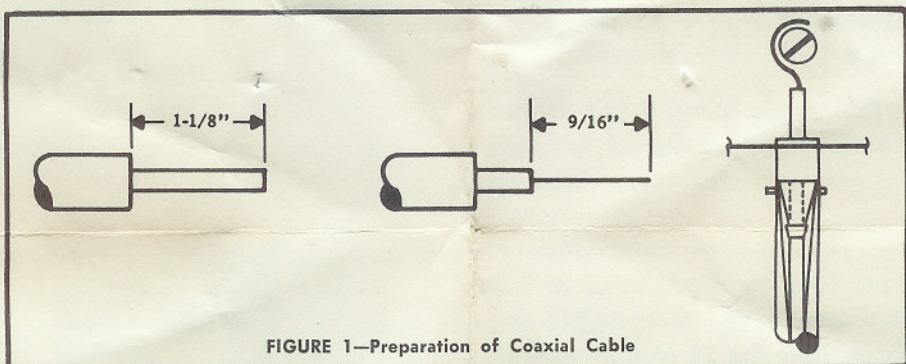
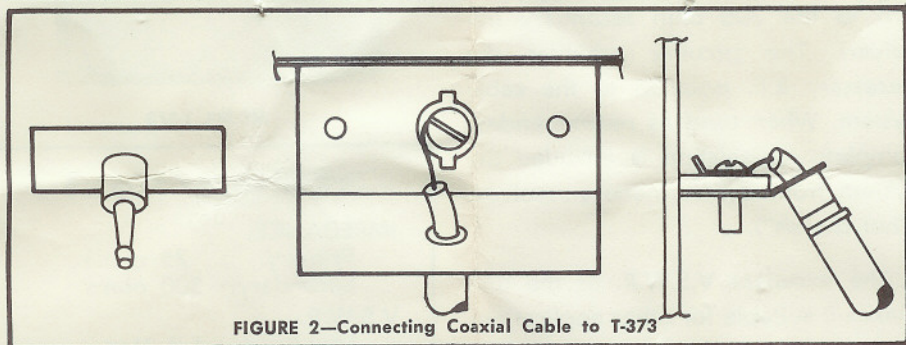

FIGURE 1—Preparation of Coaxial Cable
FIGURE 2—Connecting Coaxial Cable to T-373
1. Connect unit into feeder line (See Figure 1 and Figure 2.)